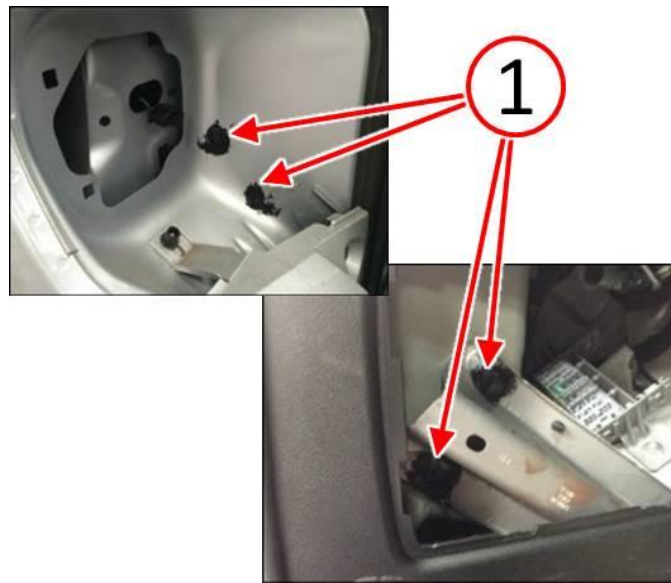

Fig. 5 Cover Rivets With Polyurethane Adhesive Sealant
8. Using polyurethane adhesive sealant or Mopar weather strip adhesive, completely cover and seal the rivets on both sides (inside the vehicle and inside the tail lamp bucket) in order to fully encapsulate the rivets to protect against water infiltration (Fig. 5).